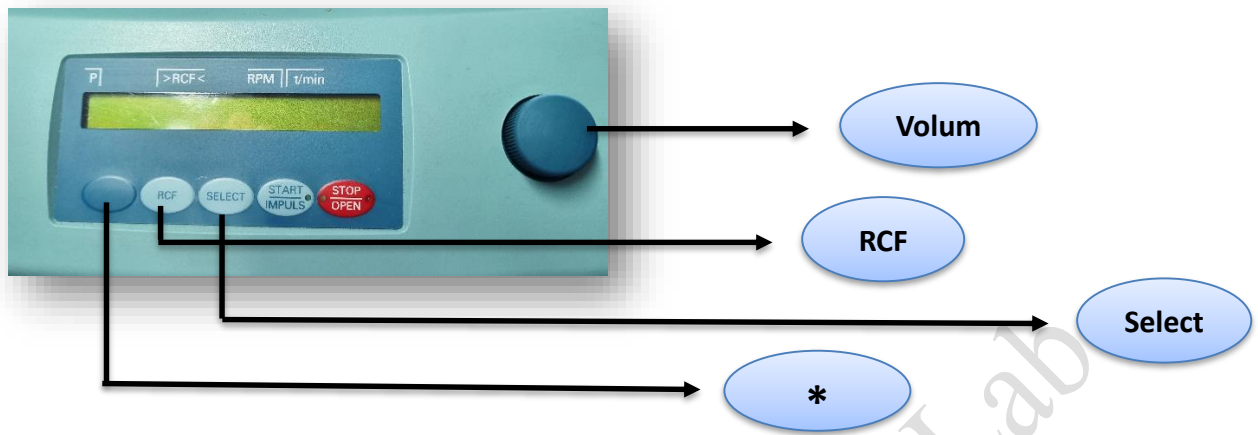

Figure 2. Schematic image of centrifuge keys
- By pressing the **RCF** key, the RCF or rpm mode is selected **(Figure.2)**